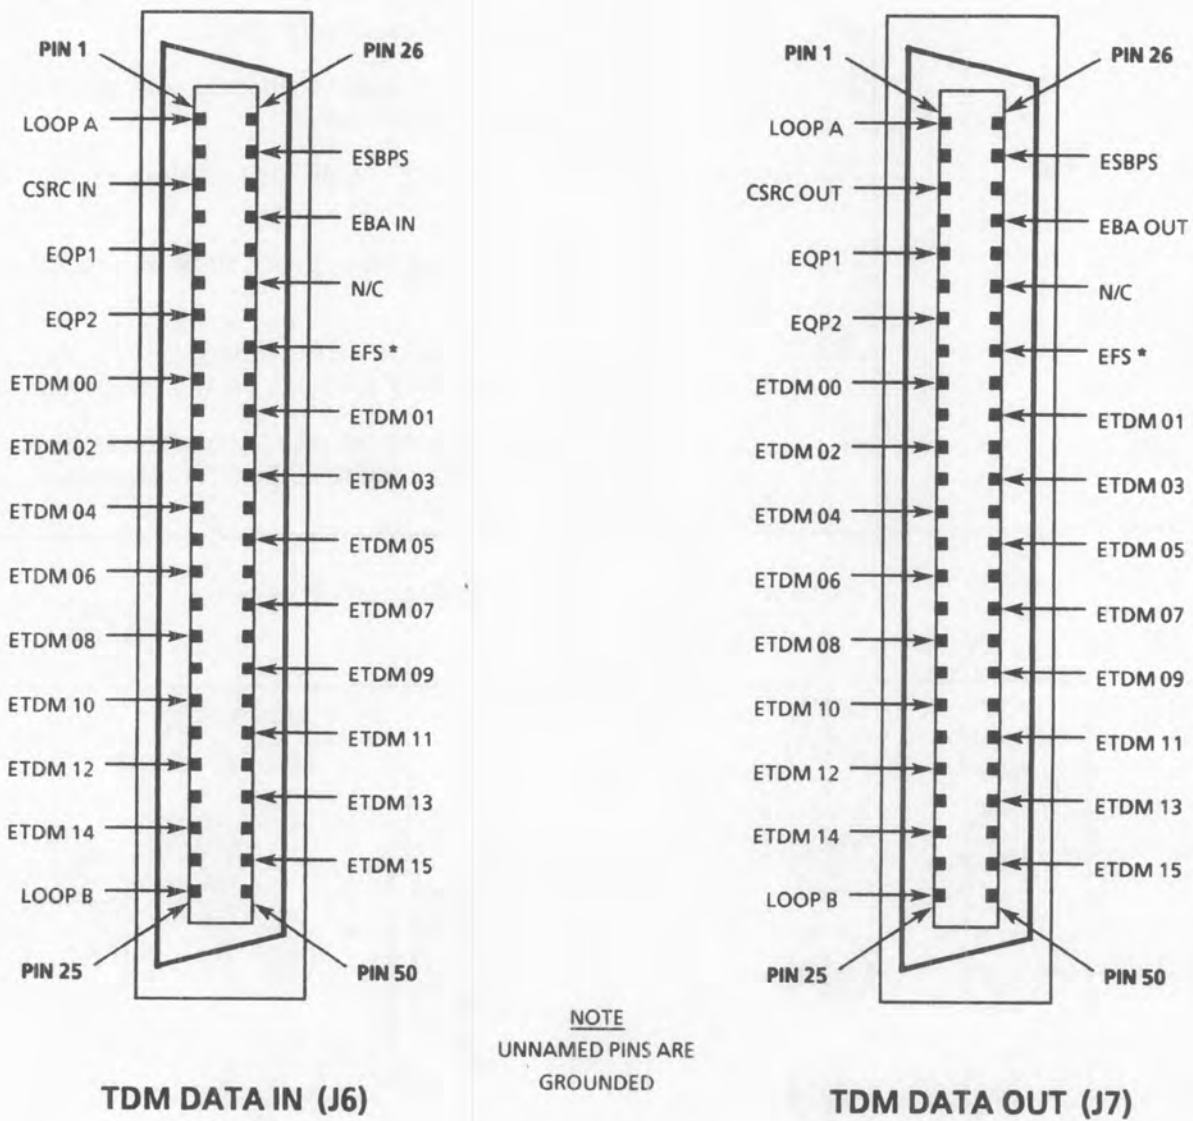

Figure 2-4. TDM Interface Connectors J6 and J7, Pin Assignments
2.2.3.6 TDM DATA IN (J6) - This multipin connector accepts linearly-encoded, 16-bit data from a parallel TDM Voice-Grade Channel (VGC) bus. See **Figure 2-4** for the pin assignments of this connector.
2.2.3.7 **TDM DATA OUT (J7)** - The output at this multipin connector is a parallel TDM Voice-Grade Channel (VGC) bus for access by multiple units. Output data is linearly-encoded, 16-bit channel data with word and framing clocks. See **Figure 2-4** for the pin assignments of this connector.